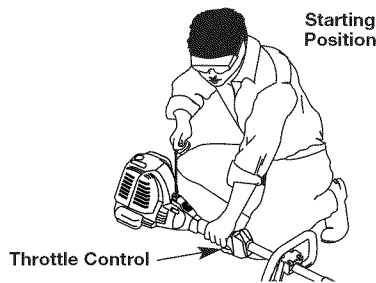

Fig. 11
WARNING: Avoid accidental starting. Make sure to be in the starting position when pulling the starter rope (Fig. 11). To avoid serious injury, the operator and unit must be in a stable position while starting.
4. With the unit in the starting position, **do not squeeze the throttle control** (Fig. 11). Pull the starter rope in a controlled motion until unit starts.
4. Crouch in the starting position (Fig. 11). Place the Plug-In Power Start or Power Bit Start into the back of the unit. Refer to the Operation section of the Plug-In Power Start or Power Bit Start operator's manual.
5. **Do not squeeze the throttle control.** Press and hold the ON (I) button of the Plug-in Power Start or Power Bit Start equipped drill in intervals no longer than 2 seconds each until the unit starts.